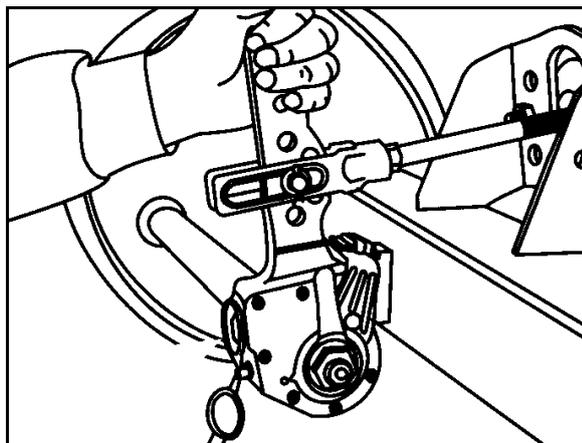

Fig. 88
Move the linkage adjuster by hand in the pressure direction (Fig. 88). If the free travel of the long-stroke diaphragm cylinder pressure rod is max. 35 mm, the wheel brake must be readjusted.
2. Slacken the adjusting screw (arrow) with a ring spanner (Fig. 88) approx. $\frac{3}{4}$ of a turn anti-clockwise. There must be free travel of at least 50 mm for a lever length of 150 mm.